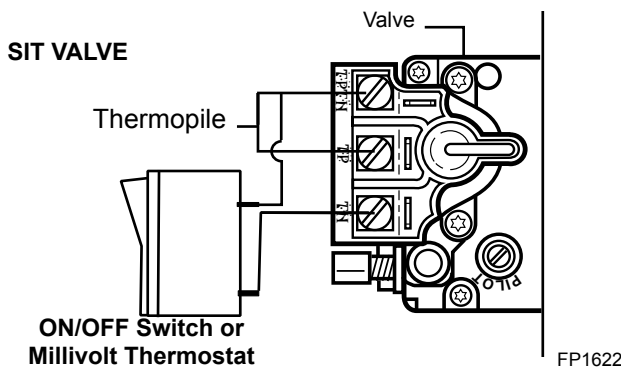

Fig. 47 Install wiring to switch before connecting to valve.
3. Attach wires to valve terminals. (Figure 47)
2. Connect the thermostat wires to the valve. (Figure 47)